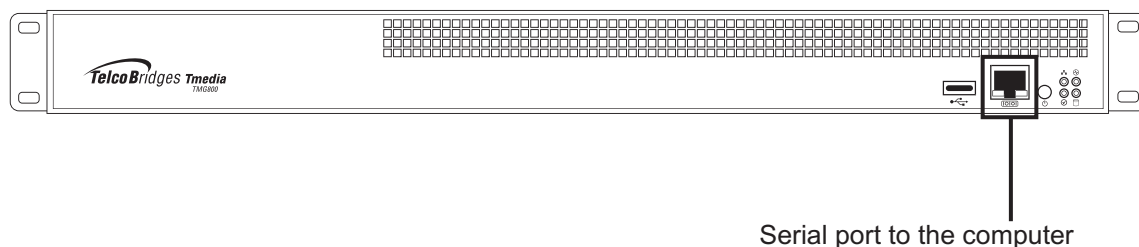

Figure 7.1 Computer to Tmedia VoIP Gateway Serial Port Connection
1. Connect one end of a CAT5 RJ-45 (male-male) cable to the DB-9 to RJ-45 adapter (both supplied with unit). Connect the DB-9 to RJ-45 to your computer serial port and the other end of the CAT5 RJ-45 (male-male) cable to the Tmedia serial port (labelled 10101) of the Tmedia VoIP Gateway as shown in figure 7.1 on page 62. See page 93 in Appendix A for a RJ-45 pinout description.